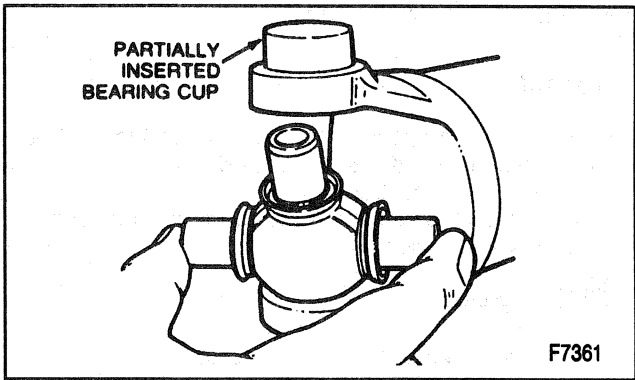

Figure 16—Partially Inserted Bearing Cup
1. One bearing cup part way into one side of the yoke (Figure 16).